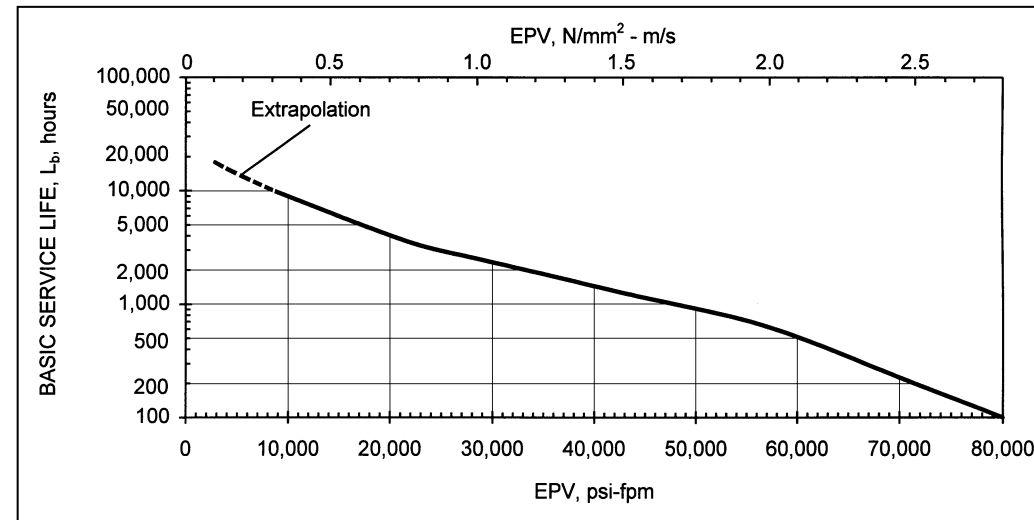

Figure 5-4. DX Basic Service Life,  $L_b$ , vs. EPV
Figure 5-4 shows the basic service life,  $L_b$ , in hours assuming normal room temperature conditions, normal running clearances, and good heat dissipation of a well-proportioned bearing operating against low carbon steel with a surface finish of 16 microinches (0.4 micrometers). The following graphs and tables describe major factors affecting DX bearing life.
The calculated EPV factor, as described on page 5-4, is used to determine the basic DX bearing service life  $L_b$ . The estimated bearing life,  $L_{DX}$ , is calculated by applying various service factors to the basic service life  $L_b$ . Refer to Figure 5-4 and read the basic service life based on the calculated EPV.
- $L_b$  = DX basic service life, hours, see Figure 5-4
- $L_b$  = sleeve bearing basic service life, Figure 5-4